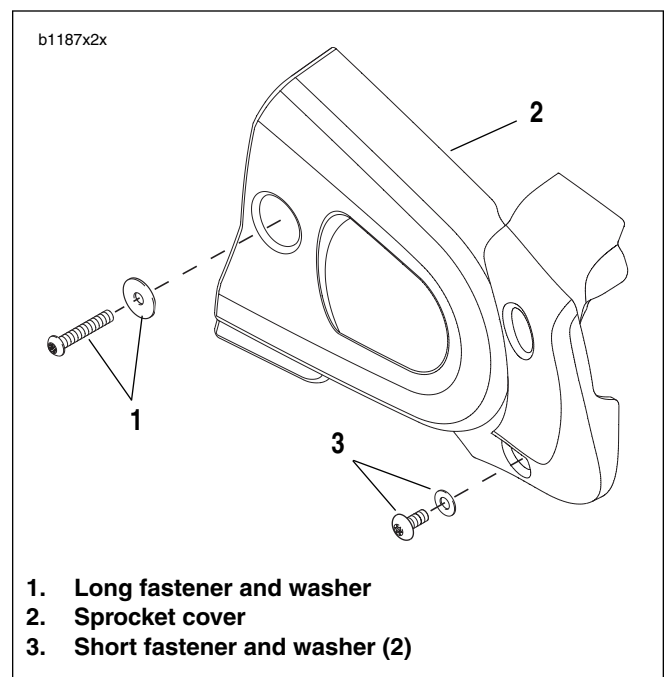

Figure 2-114. Sprocket Cover
2. See Figure 2-114. Remove sprocket cover fasteners and washers (1).
1. See Figure 2-114. Position sprocket cover (2) over front sprocket.